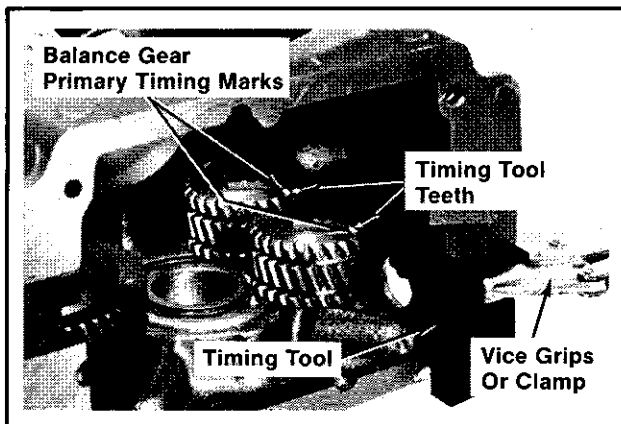

Figure 12B-12. Installing Balance Gear Timing Tool.
- Lubricate the crankshaft rear bearing surface. Insert the PTO end of crankshaft through rear bearing. "Straddle" the primary and secondary timing marks on crankshaft over the rear bearing oil drain (refer to Figure 12B-13). Press the crankshaft into rear bearing until the crankgear is just above the camshaft gear but not in mesh with it.